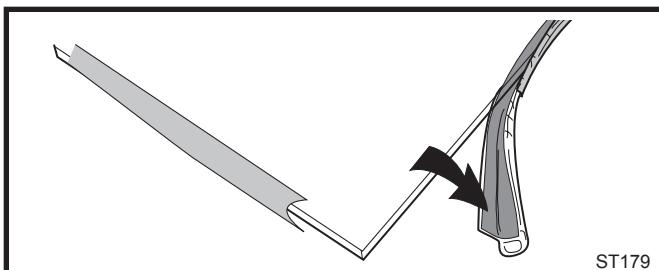

Fig. 60 Wrap the gasket material around the outside edge of the glass.
3. Starting on a long edge, remove about 6" of the protective paper strip and apply the flat adhesive face of the gasket around the outside-facing edge of the panel. Continue around the panel, applying about 6" at a time and being careful to not stretch the material. Do not overlap the gasket ends. (Fig. 60)